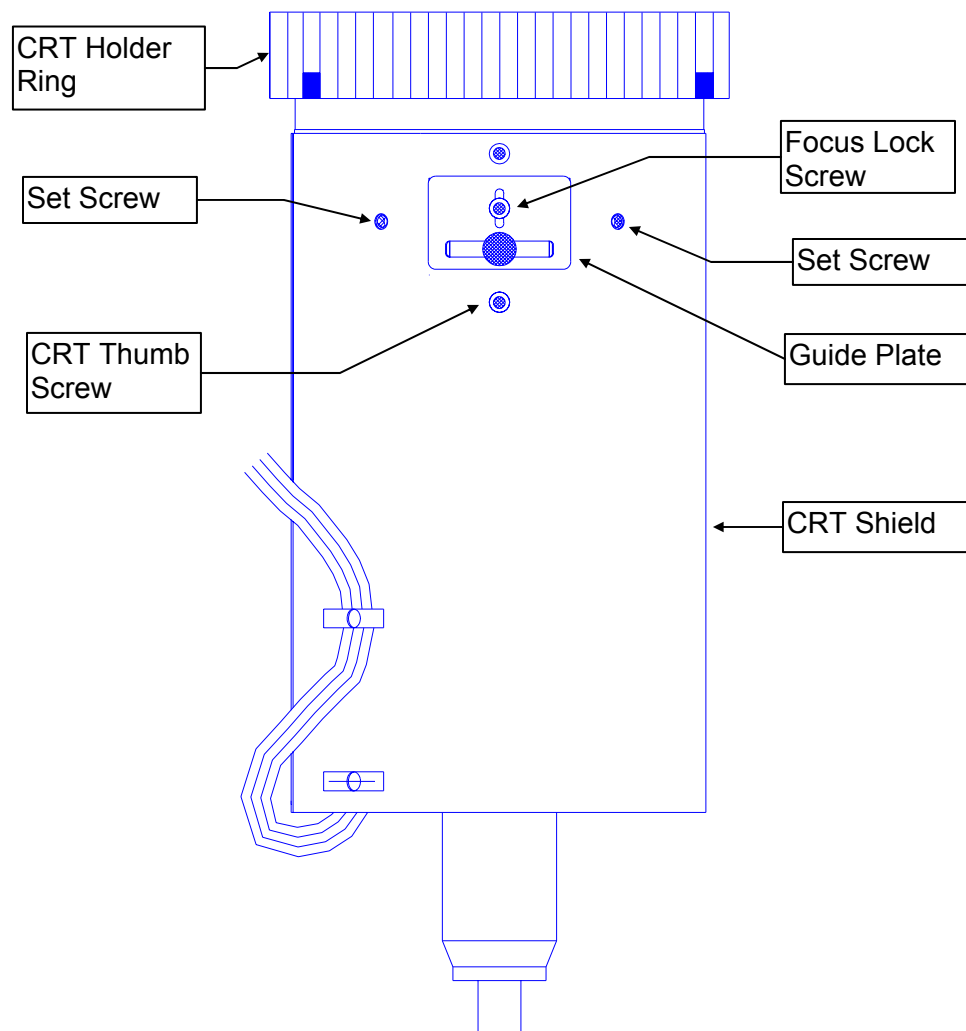

Figure 3-5. CRT Mechanical Focus adjustments.
9. Put on safety gloves (see *Safety section for gloves type*) then loosen the wing nut on the Green Relay Lens (or whichever lens is being focused). **NOTE:** If the **ILA**®/Relay Lens/CRT assembly cannot be moved close enough to get a good spacer ball focus, loosen the CRT Lens Stopper Ring in front of the CRT Holder Ring (Figure 3-5). Move the CRT snug against the collar to get additional range, and then, retighten the collar.
NOTE: The CRT Mechanical Focus procedure (*Section 3.5*) is often performed sequentially with the CRT Rotation procedure (*Section 3.6*). The same two set screws (*Figure 3-5*) are loosened when doing either of these procedures. When performing the procedures in sequence, ensure the two set screws are secure when either the focus lock screw *or* the CRT thumbscrew is tightened after finishing each adjustment. **Do not** leave the set screws loose when securing either the focus lock screw or the CRT thumbscrew. **Turning**
5. Loosen the two set screws (Figure 3-5) near the top of the CRT sleeve.
6. Loosen the CRT focus lock screw located on the Guide Plate at the top of the CRT shield (*Figure 3-5*). The CRT is now free to slide.
7. Grasp the CRT thumbscrew (*Figure 3-5*) and slide the CRT back and forth until the image is focused as sharply as possible (be careful not to loosen the CRT thumbscrew which could cause the CRT to rotate).
5. Loosen the 2 set screws (*Figure 3-5*) near the top of the CRT sleeve.
6. Loosen the CRT Thumbscrew (*Figure 3-5*) on the top of the CRT Assembly.